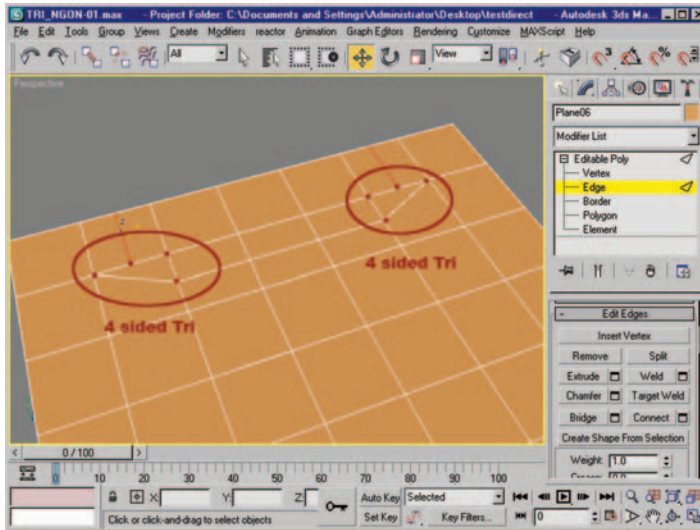

Figure 6.53 Four-sided Tri/Quads.
2. Use Connect on the ring selection and once again you are left with a four-sided Tri (Figure 6.53).